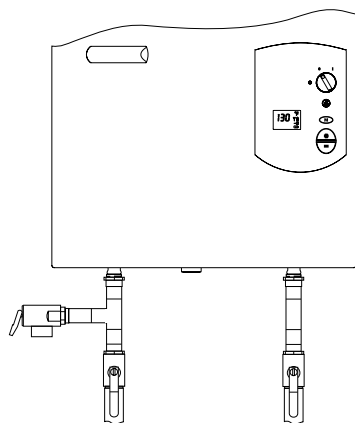

Fig. 28 Plumbing Connections and Pressure Relief Valve
reversed, the heater will not function. Be certain there are no loose particles or dirt in the piping. Blow out or flush the lines before connecting to the water heater. Full port valves should be installed on both the cold water supply and hot water outlet lines to facilitate servicing the heater (see Fig. 28). For installation on a private well system with the use of a pressure tank, the lowest pressure range setting recommended is 30-50 psi (2.07 and 3.45bar).
A listed pressure relief valve supplied with the heater must be installed at the time of installation. No valve is to be placed between the PRV and the heater. No reducing coupling or other restriction may be installed in the discharge line. The discharge line must be a minimum of 4" above a drain and installed such that it allows complete drainage of both the PRV and the line. The location of the PRV must be readily accessible for servicing or replacement, and be mounted as close to the water heater as possible. See Fig. 28. To install the PRV, a suitable fitting connected to an extension on a "T" fitting can be sweated to the hot water line. Support all piping.
- ▶ **2.** The gas valve must be shut off by putting the ON/OFF switch to position (0). Wait five (5) minutes to clear out any gas. If you smell gas, STOP! Follow "B" in the safety information above. If you do not smell gas, go to the next step.
- ▶ **4.** Set the ON/OFF switch to the (I) position. In this position, the water heater is ready to use.
NOTE: on a first time initial installation, existence of air in the gas supply line will cause some ignition delay when the hot water is turned on and result in an error (EA) on the display screen. This is normal. You must turn off the flow of hot water, reset the unit (Fig. 28, pos. 2), wait for (EA) to disappear, and then re-open the hot water tap again. Repeat these steps if the error (EA) repeats itself until all air has been bled from the gas line.